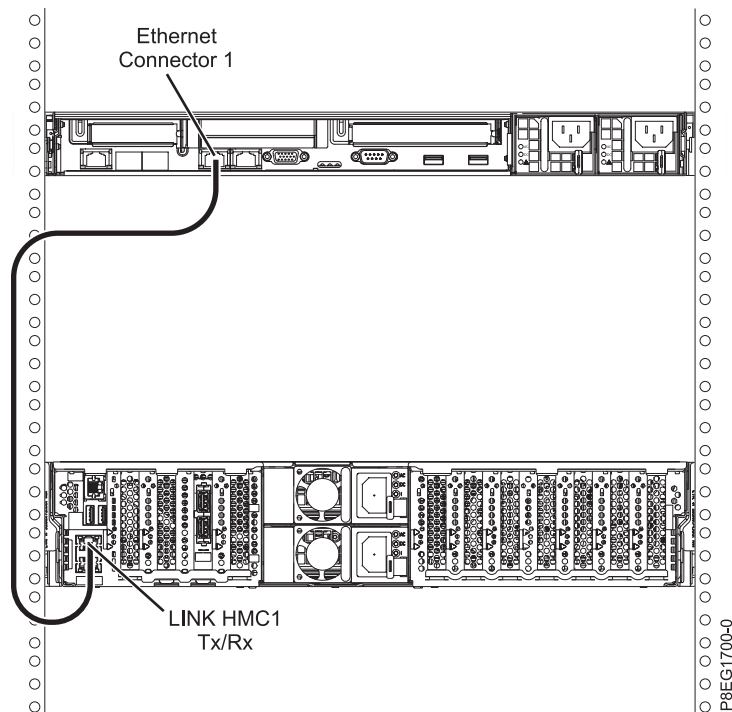

Figure 19. Attaching the HMC to the managed system
1. If you want to directly attach your HMC to the managed system, connect **Ethernet Connector 1** on the HMC to the **HMC1** port on the managed system. See Figure 19.